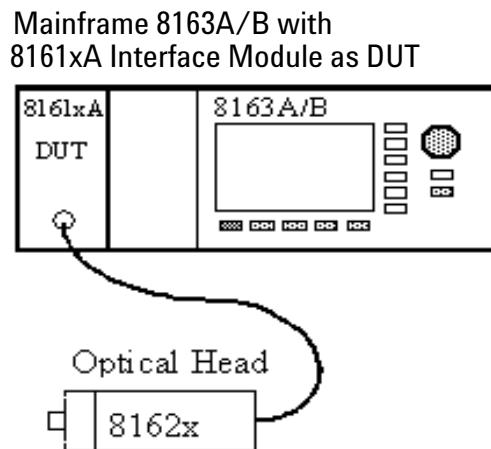

Figure 1 Functional Test Setup
- 1 Set up the equipment as shown in Figure 1